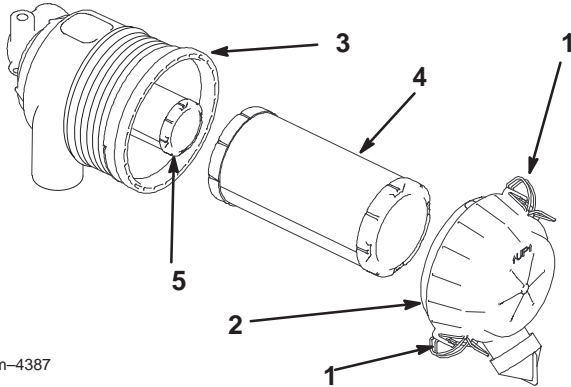

Figure 23
2. Release the latches on the air cleaner and pull the air cleaner cover off of the air cleaner body (Fig. 23).
- Gently slide the primary filter out of the air cleaner body (Fig. 23). Avoid knocking the filter into the side of the body. Do not remove the safety filter, unless you intend to replace it as well.
- If the safety filter is being replaced, carefully slide it into the filter body (Fig. 23).
- Carefully slide the primary filter over the safety filter (Fig. 23). Ensure that it is fully seated by pushing on the outer rim of the filter while installing it.
- Install the air cleaner cover with the side indicated as UP facing up and secure the latches (Fig. 23).